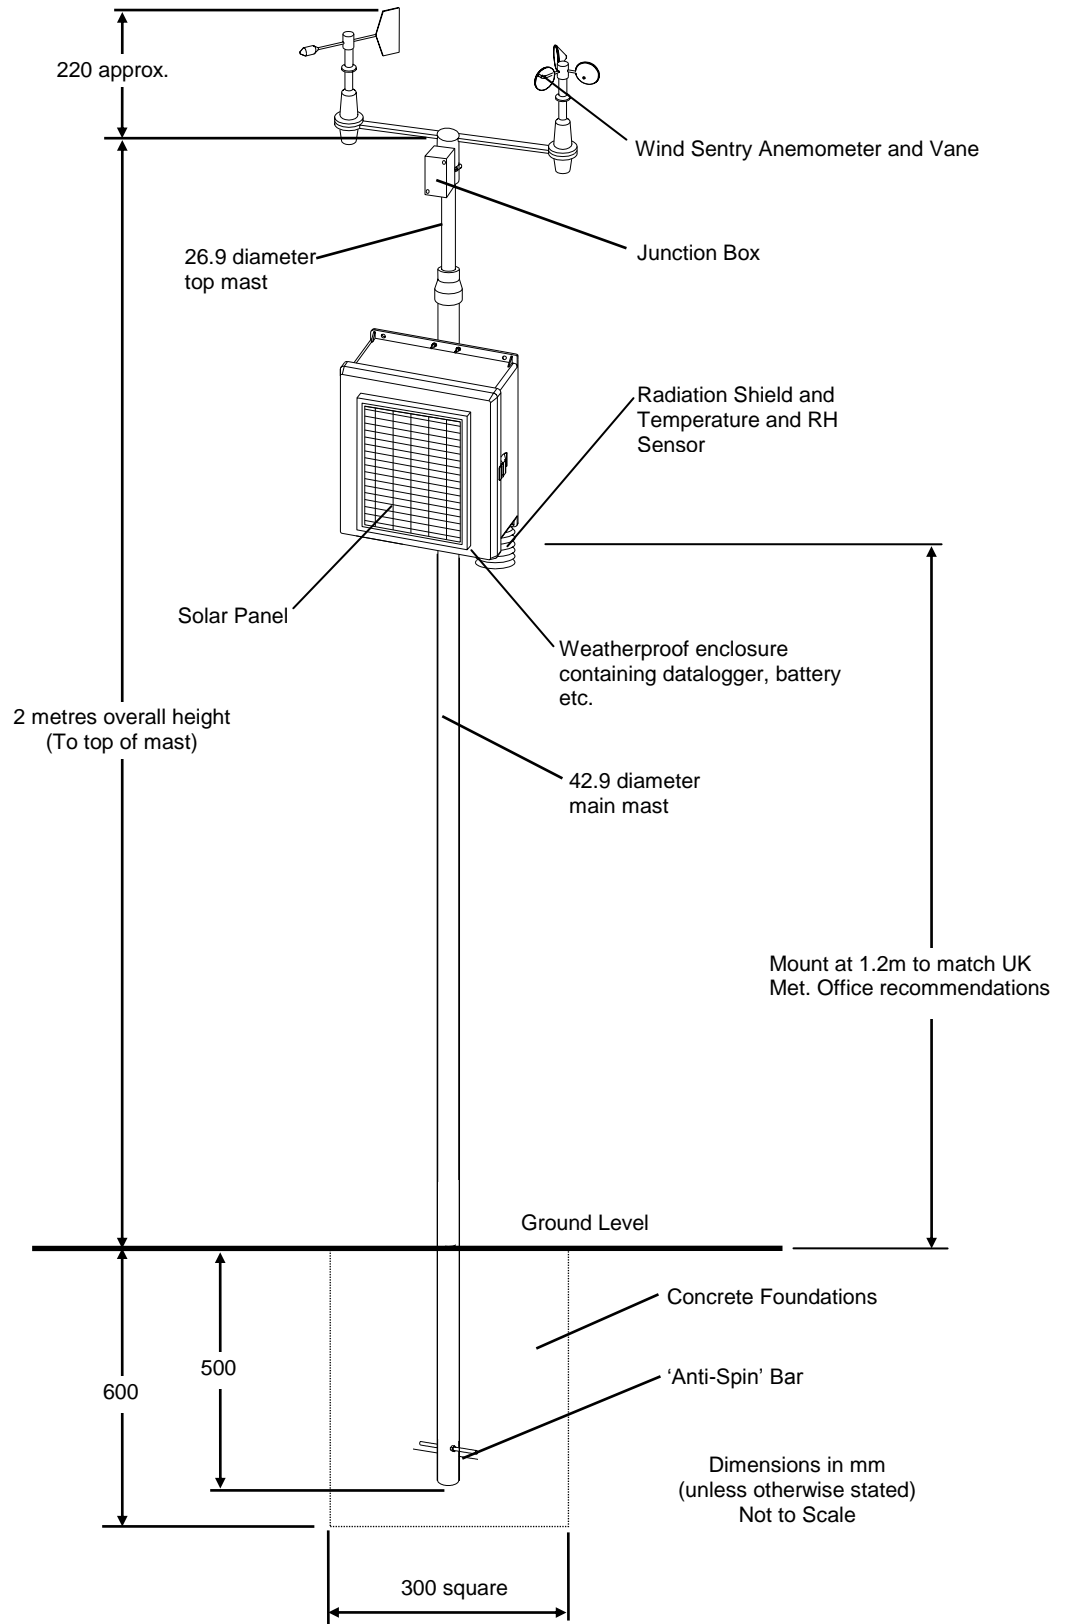

Figure 2 Basic Weather Station Mounted on Optional SPM2 Mast
Campbell Scientific can supply a suitable low-cost mounting pole, as shown in Figure 2.
If you will be mounting your Basic Weather Station on a pole type mast, it is recommended that it is mounted into a concrete filled hole, to provide stability, as shown in Figure 2 for the Campbell Scientific SPM2 mast.
If you are using your own mounting mast or pole, the dimensions should closely match those given above, so that the enclosure can be mounted on the main section, and the Wind Sentry bracket can be mounted on the reduced top portion as shown in Figure 2.
2. Dig a hole at least 300mm square by 600mm deep (see Figure 2).